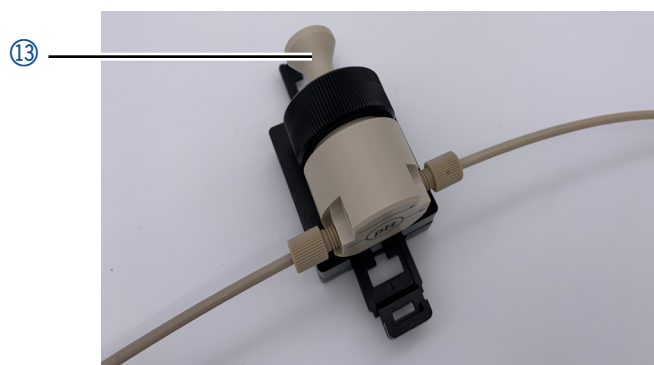

Fig. 8: AZURA® pH flow cell with dummy electrode
- insert the dummy electrode (order separately) after removing the pH electrode (see figure 8).